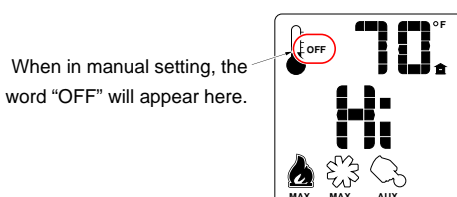

Figure 5
- **MANUAL ON/OFF** – The burner will turn on and off using the remote (see Figure 5). Press the On/Off button to control the burner. When off, the display will only show the current temperature.